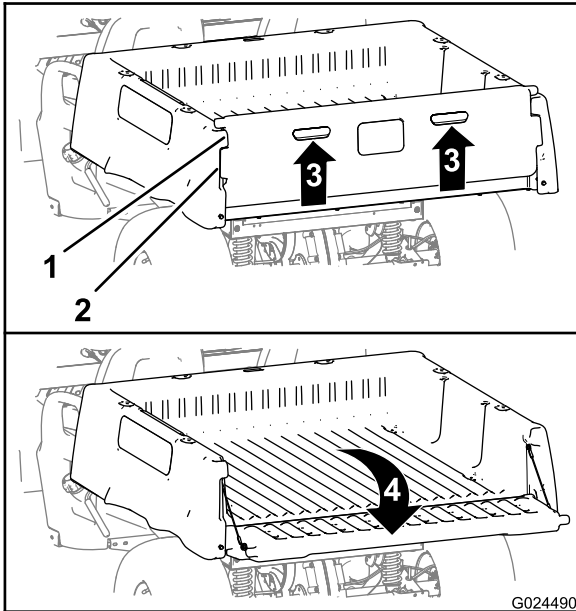

Figure 18
2. Lift up on the finger pulls at the back panel of the tailgate (Figure 18).
3. Align the lock flanges of the tailgate with the openings between the tailgate flanges of the cargo box (Figure 18).
4. Rotate the tail gate rearward and down (Figure 18).
6. Rotate the tailgate up and forward until the lock flanges of the tailgate are flush with the tailgate pocket in the cargo box (Figure 18).
7. Lower the tailgate until it is seated in the back of the cargo box (Figure 18).